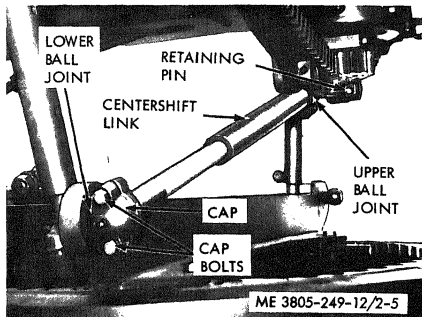

Figure 2-5. Repositioning centershift link.
(1) Lower the blade to the ground and shift the rack as necessary to relieve the weight on the centershift link (fig. 2-5).